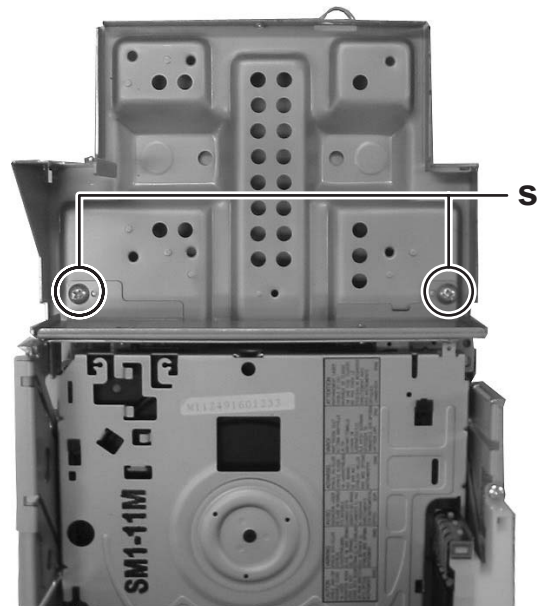

Fig.18
- (2) Remove the two screws **S** and two screws **T** attaching the DVD changer mechanism assembly. (See Fig.18, 19)